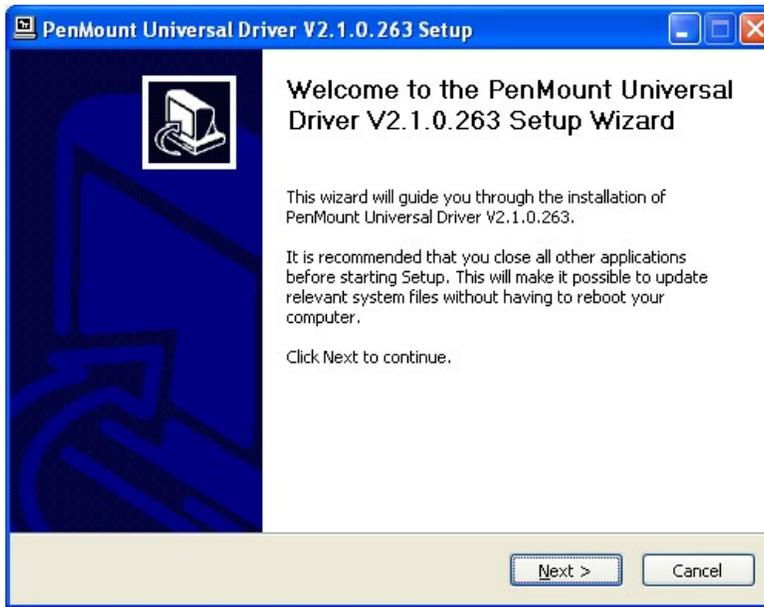

Figure 7-17: Touchscreen Driver Welcome Screen
Step 4: A **Welcome Screen** appears (**Figure 7-17**).